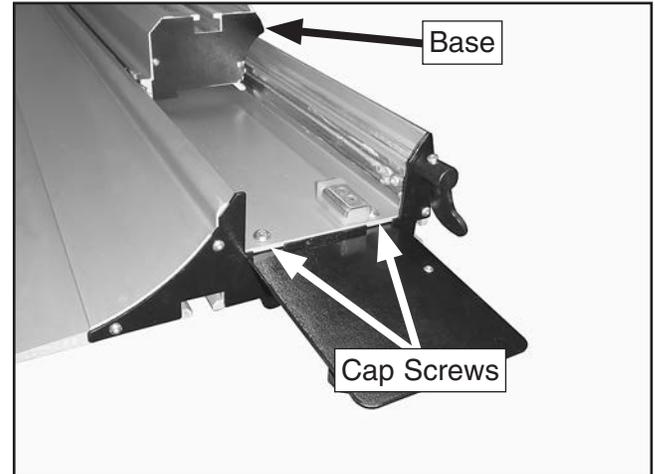

Figure 19. End handle installed.
10. Attach the end handle to sliding table with the cap screws removed in **Step 9**. Slide the sliding table base out of the way to install the two larger cap screws shown in **Figure 19**.